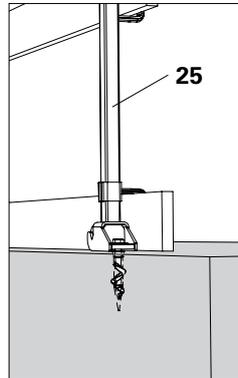

Fig. C4.04a
- Tighten and slightly tension the bolt M16 x 120 (43) together with washer ISO 7094 100 HV, A16 (44). (Fig. C4.04a + C4.04b + C4.05)